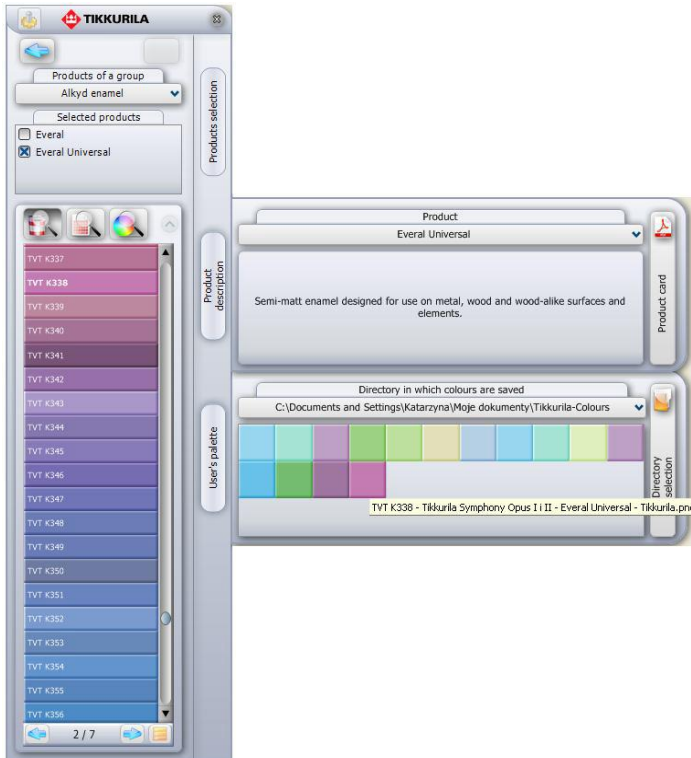

Fig. 395 – an effect of the selection by the code, and adding the product to the User Palette and the description display
- the colour will be added to the palette and will be displayed in a form of a square (Fig. 395);